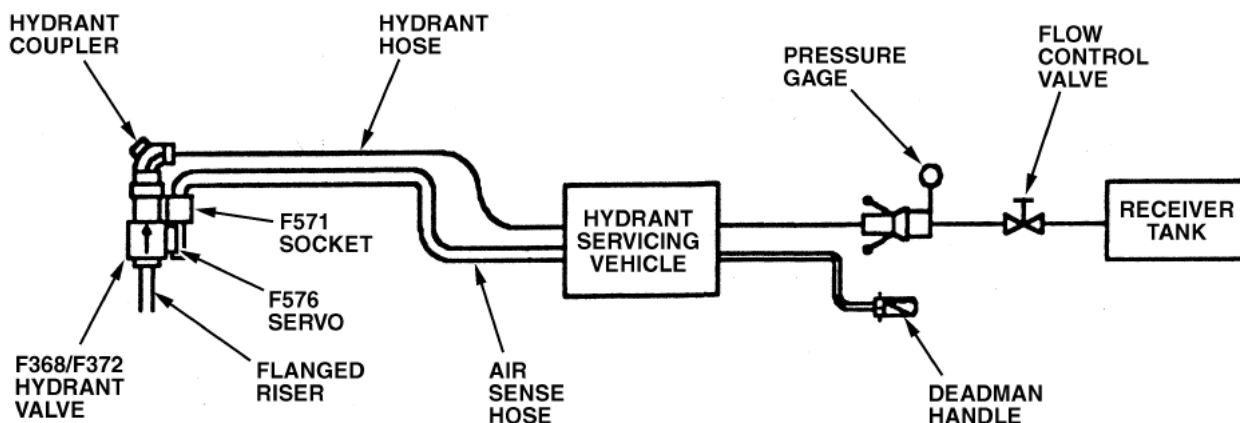

Figure 3. Excess Flow Adjustment Setup Diagram
- A. Install the hydrant valve in an adjustment setup as shown in Figure 3. The hydrant valve should be on a flanged riser, connected to a suitable hydrant servicing vehicle and a fuel receiver tank.